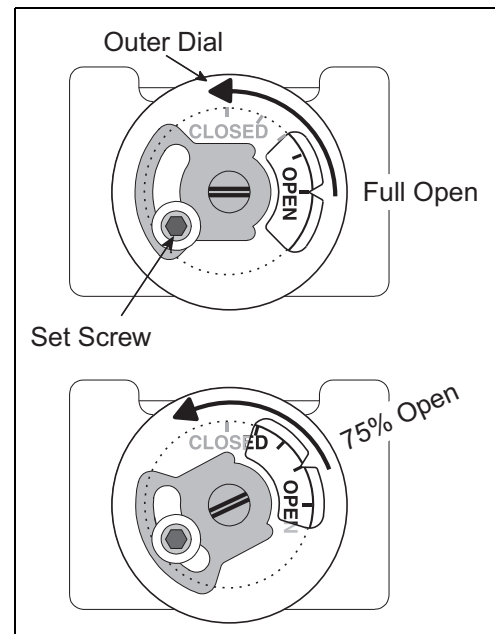

Figure 4.8. Manual Butterfly Valve Adjustment
1. Set manual gas butterfly valve to 75% open. See Figure 4.8.